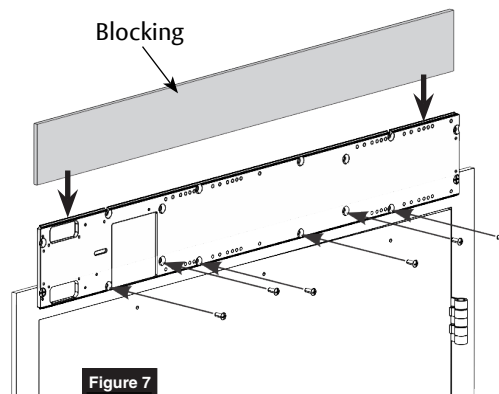

Figure 7
1. Secure backplate to frame using six (6): 1/4-20 x 5/8" machine screws or 1/4 x 1-1/2" self-drilling screws. (Figure 7)
NOTE: It is important to properly secure top edge of backplate. Use of blocking (supplied by others) or shims (provided) to fill gap between backplate and wall above header is **HIGHLY** recommended. Material must comply with local codes. Failure to properly secure top of backplate could result in operator being allowed to 'rock' during operation. This could result in damage to operator and diminish operator function. (Figure 7)